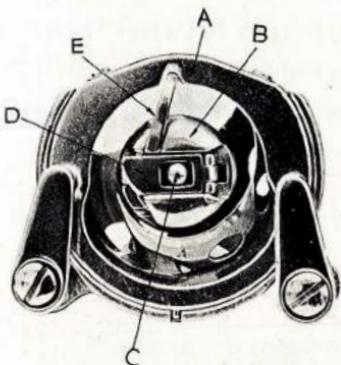

Fig. 8
Raise needle bar to highest position, and lift hinged cover plate. (See 15 Fig. 1) Hold the bobbin case latch (D, Fig. 8), between the thumb and forefinger of the left hand, with at least three inches of thread running from the top of the bobbin case to the right. Insert and center the bobbin case on the stud of the shuttle body, (C). Be sure the bobbin case finger (E) is opposite the shuttle race notch, (A). Press the bobbin case (B) into the shuttle as far as possible until latch catches on the center post of the shuttle. Then release the bobbin case latch, (D). Press bobbin case again after latch has been released to make sure the bobbin case is locked securely.